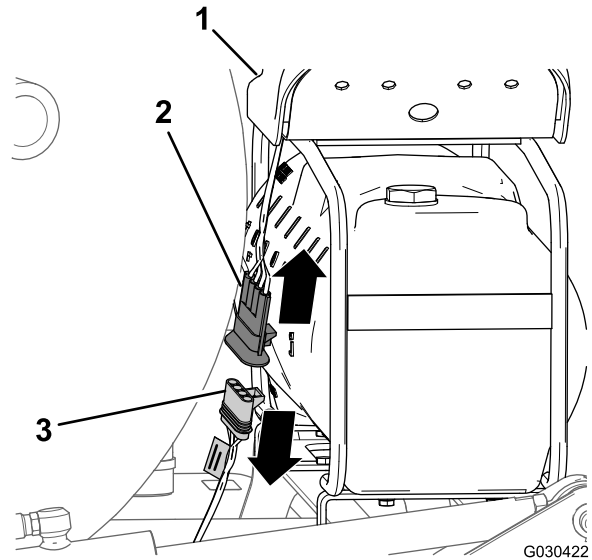

Figure 6
1. At the back of the foam-marker tank, locate the wire harness at the compressor (Figure 6).
2. Disconnect the 4-pin connector of the compressor harness from the from the 4-socket connector of the rear wire harness of the machine (Figure 6).